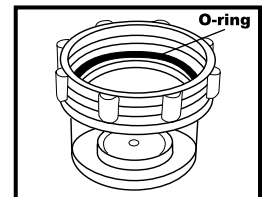

Figure 22
- Remove the Clear Canister filter and inspect the o-ring. If damaged, carefully pull the defective o-ring out and insert a new o-ring (fig. 22).